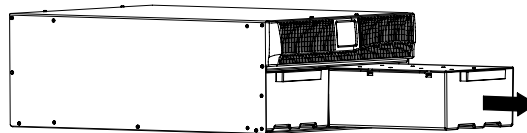

Figure 24. Removing the Battery Trays
4. Pull the battery trays out onto a flat, stable surface (see Figure 24). See "Recycling the Used Battery or UPS" on page 46 for proper disposal.